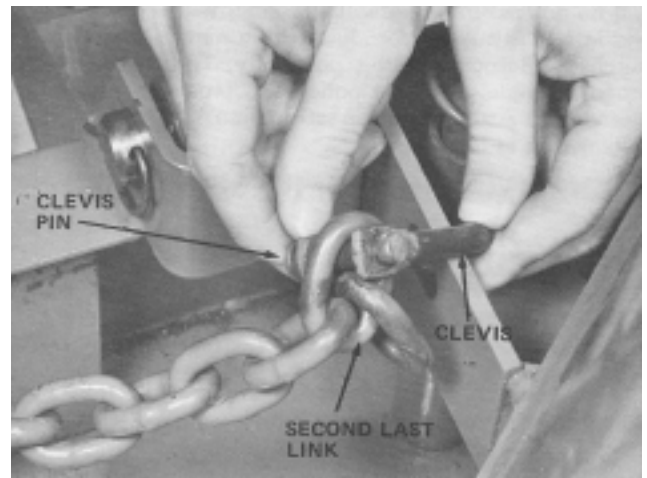

Figure 8
5. Slide clevis through hole in left side plow support. Next, secure second last link of left side lift chain to clevis with clevis pin and cotter pin (Fig. 8).